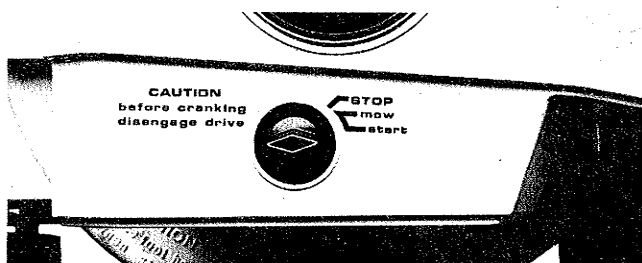

FIGURE 8
2. Rotate the speed control knob clockwise to the start position. (See Figure 8).